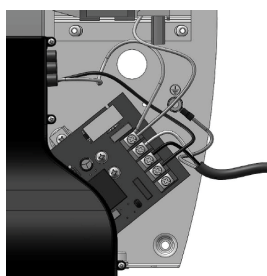

Fig. 5
- f. For 115-Volt Dryers, connect ground wire to ground terminal marked  $\oplus$ , the black or hot wire to terminal marked L1, and neutral or white wire to terminal marked N. **A DEDICATED LINE IS REQUIRED FOR EACH 115-VOLT INSTALLATION.** (See Fig. 5)
- g. For 208–240 Volt Dryers, connect ground wire to ground terminal marked  $\oplus$  and the 208–240 volt wires to terminal marked L1 and L2. (See Fig. 5)